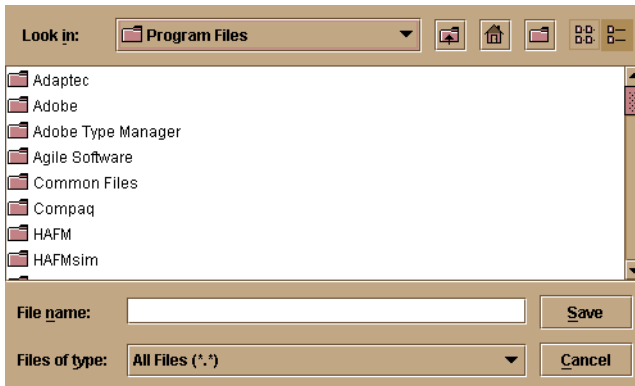

Figure 3–17: Save Data Collection Dialog Box
3. At the navigation control panel, select Data Collection from the Maintenance icon. The Save Data Collection dialog box (Figure 3–17) displays.